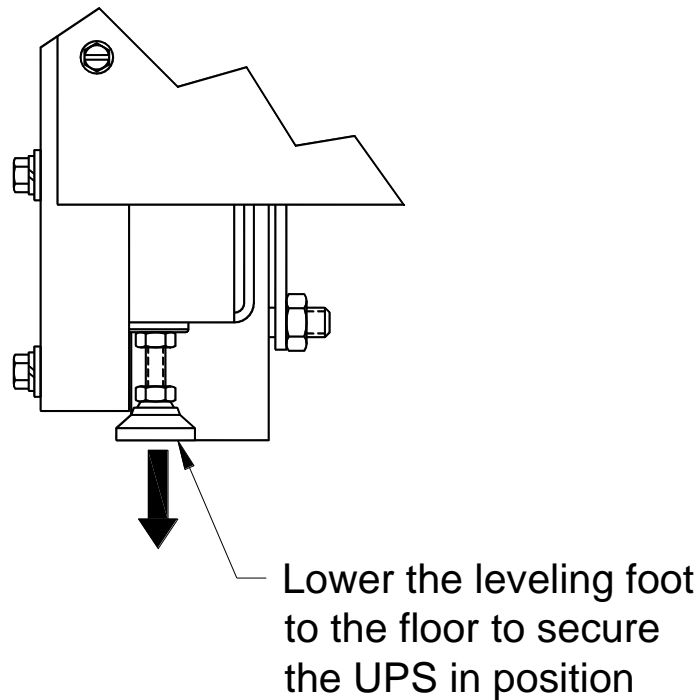

Figure 5-Leveling foot being adjusted down to the floor
5. Ensure that the four (4) leveling feet are raised so that they will not touch the floor when the cabinet is placed on the floor.
6. Lift the cabinet with a forklift from the rear of the unit, one to two inches (1"-2" [2.5-5cm]) above the pallet (see figure 5).
Once the cabinet has been rolled into position, remove the front panel to access the front leveling feet by pulling the panel outward at the bottom of the unit until it unsnaps and then lift up and off the cabinet (see figure 9). Adjust the leveling feet as shown in figure 5.